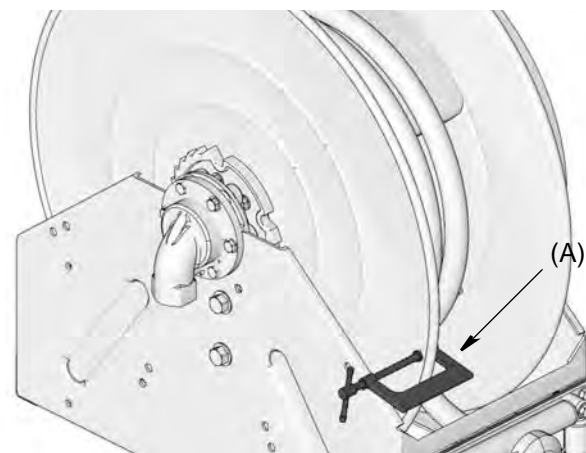

FIG. 13
3. Attach a c-clamp (A) to the reel spool as shown in FIG. 13 to help prevent the reel from unintentionally becoming unlatched and spinning freely.
12. Securely attach a c-clamp (A) to the reel spool as shown in FIG. 13 to help prevent the reel from unintentionally becoming unlatched and spinning freely.